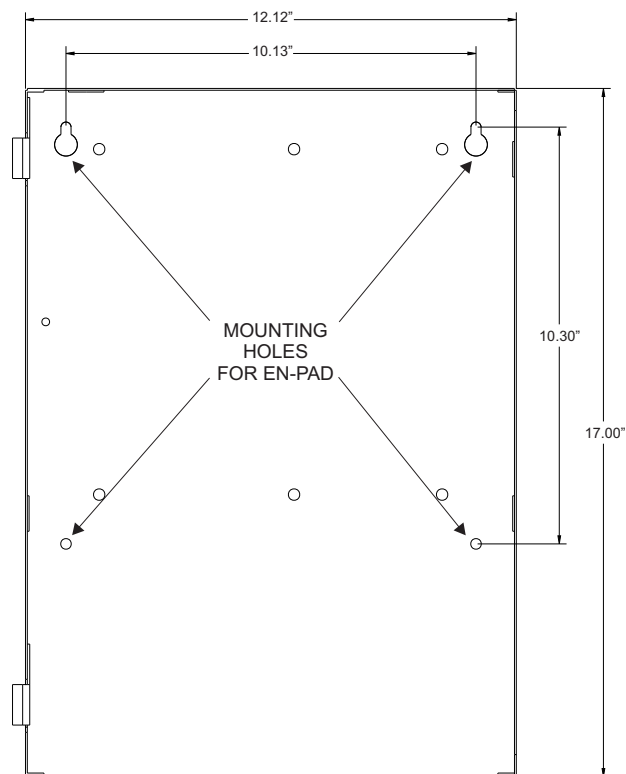

Figure 3
3. Mark the locations of the two upper mounting bolts of the backbox on the wall (Refer to Figure 3).